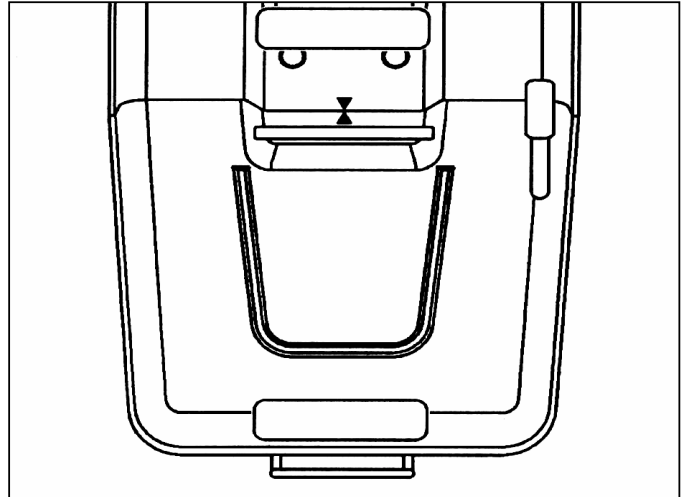

Fig. 7
3. When the grass catcher is properly positioned, place the decal with the triangle symbol directly opposite to the symbol on the rear of the tractor. This will assist alignment in the future (Fig. 7).